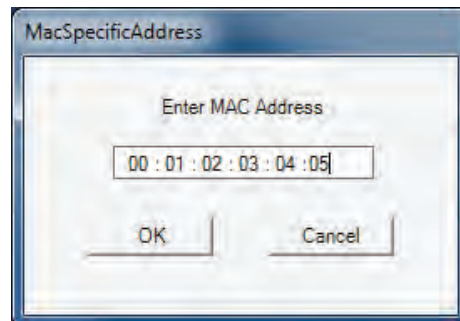

Figure 24. The Enter Mac Address dialog box.
STEP 20. Verify all the data to be included and select a current keyset to encrypt the file. Click the **Continue** button. If a MAC-specific key is used to encrypt the file, the dialog box shown in Figure 24 will be displayed.